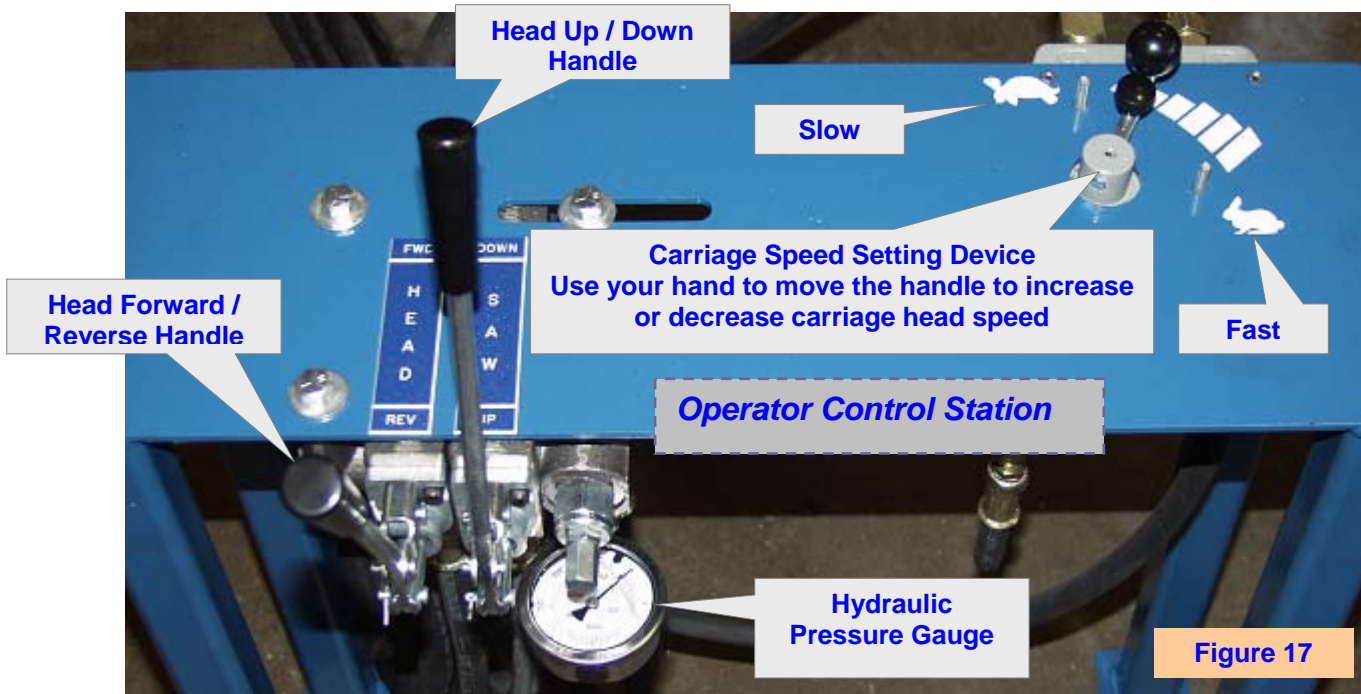

Figure 17
Step 6: Push the head forward handle in the “fwd” direction, allowing the carriage to move forward and the blade to begin making its cut. Listen to the motor and if it begins to “bog-down” slow your advancement into and through the log (**Figure 17**).